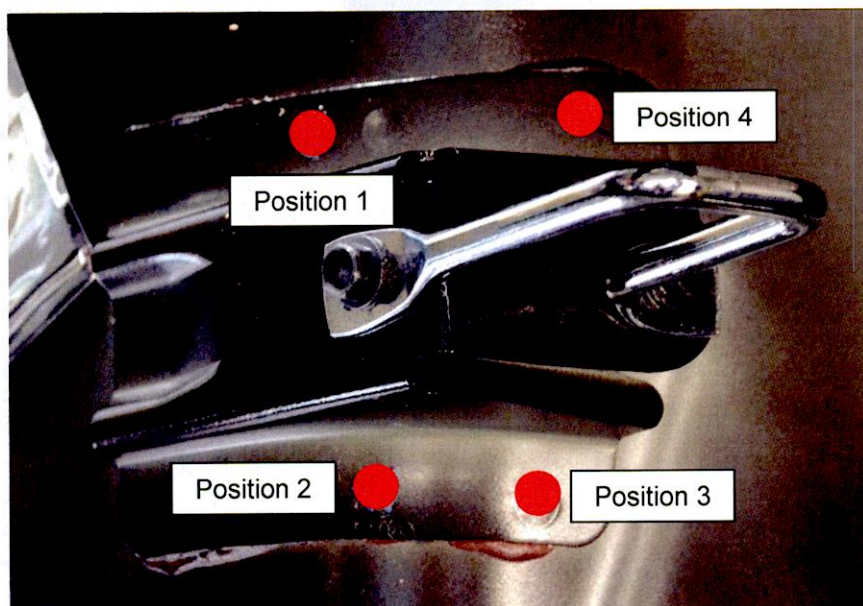

Figure 6
7. Use a marker or paint pen to mark 4 drill points (Figure 6). Do not drill at this time.
1. Using a 1/4 in (6.35 mm) drill bit, drill position 3 on the 2nd row seat striker bracket (Figure 6). Drill completely through all sheets.
1. Using a 1/4 in (6.35 mm) drill bit, drill position 4 on the 2nd row seat striker bracket (Figure 6). Drill completely through all sheets.